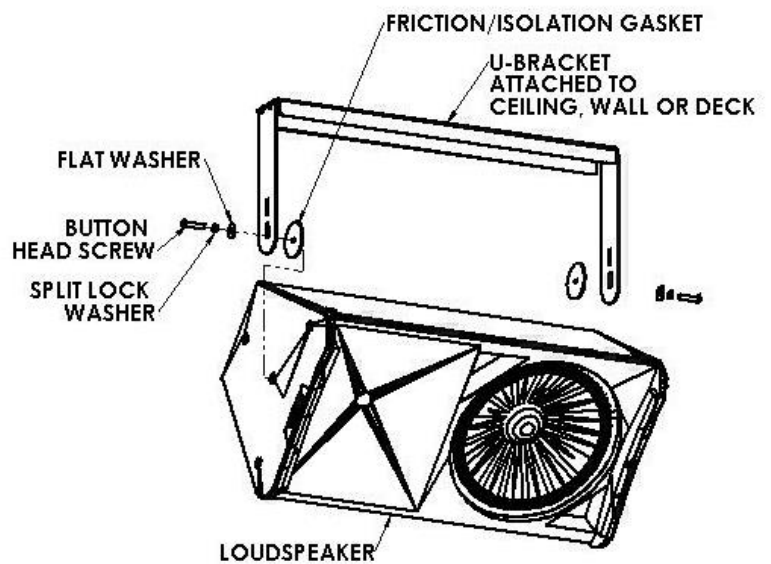

Figure 1
**Step 3:** *Check the speaker's insert threads if it metric or US standards.* Place the speaker between the U-Bracket's arms. Insert the M10 Button head bolt, flat washer and split lock washer (must match the speaker's thread) through the hole in the arms with the sound isolation gasket in between the speaker and the bracket. Thread the bolt into the loudspeaker. Repeat on the other side of the speaker (Figure 1). Do not fully tighten yet.